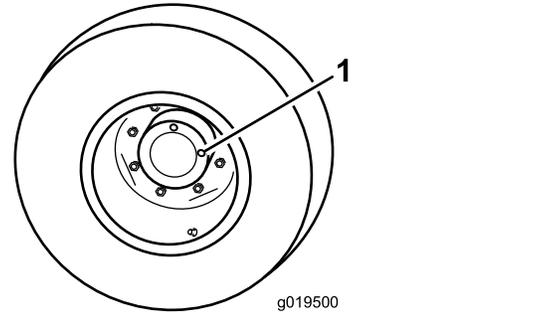

Figure 82
1. With machine on level surface, position the wheel so 1 check plug is at the 12 o'clock position and the other is at 3 o'clock position (Figure 82).
1. Check/drain plug (2)
2. Remove the plug at the 3 o'clock position (Figure 82).